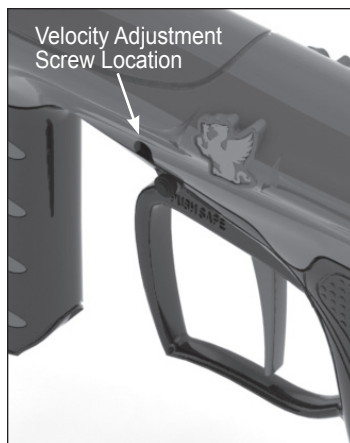

Figure 3: Use a 3/16" Allen wrench to adjust the velocity.
1. To remove the **Barrel** (54), simply unscrew the Barrel from the Barrel Adapter (53). To reinstall it, turn it clockwise to thread it into the Barrel Adapter.
2. Remove five self-tapping **Screws** (6) and remove one larger self-tapping **Screw** (10). For re-assembly, do not torque these screws more than 4.0 in-lb (0.45 N-m).
4. Remove the Air Supply Adapter (ASA) **Bolt** (5) and **Nut** (9). For re-assembly, do not torque this screw more than 4.0 in-lb (0.45 N-m).
5. Turn the Velocity Screw (see Figure 3) in (clockwise) until it stops.
6. Remove the **Feed Elbow** (48) by removing the **Screw** (5). Set the Feed Elbow and Screw aside. For re-assembly, do not torque this screw more than 4.0 in-lb (0.45 N-m).
7. Remove two **Screws** (8) from the marker, and the **Barrel Adapter Assembly** (53) comes off the marker. The Barrel Adapter has an O-ring (39) inside it, make sure it stays in place. For re-assembly, do not torque these screws more than 22.0 in-lb (2.48 N-m).